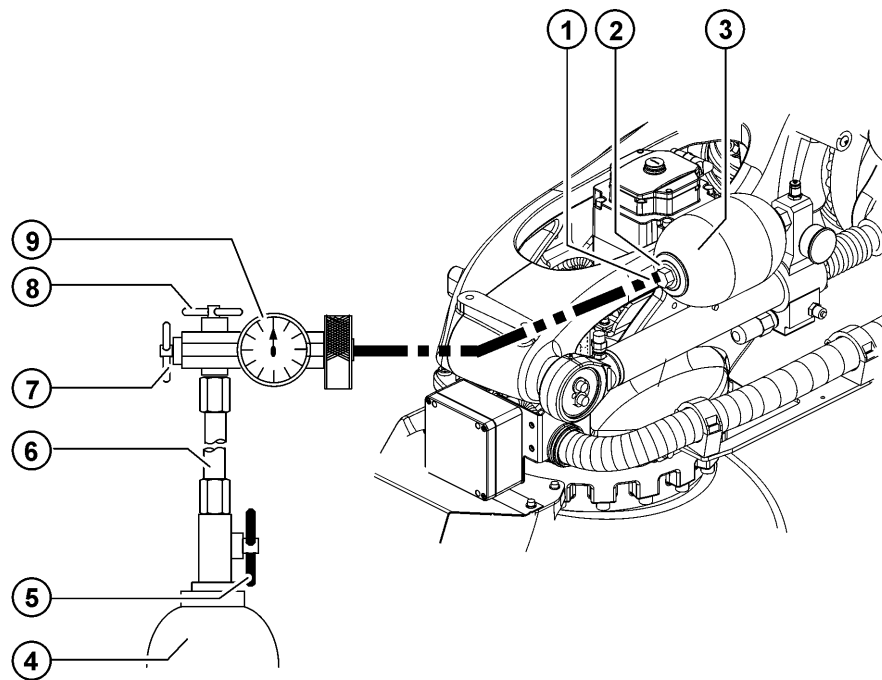

Fig. 10-5: Setting the gas pressure
2. Remove the screw cap and connect the tube to the vent valve (>>> Fig. 10-5).
7. Remove the protective caps (>>> Fig. 10-5) from the diaphragm accumulator and unscrew the Allen screw slightly (without a torque wrench, by a quarter of a turn at the most).